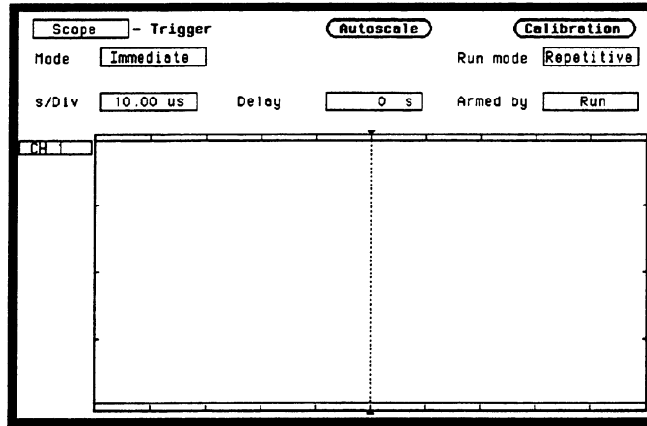

Figure 3-51. Trigger Menu
- Press the TRACE/TRIG key and set the Mode to **Immediate** and the Run mode to **Repetitive** as in figure 3-51.
- Press **TRACE/TRIG** and set the **Run** mode to **Repetitive** and trigger **Level** to **0 V** as in the previous figure 3-51.
- Press **TRACE/TRIG** and set the **Run mode** to **Repetitive** and trigger **Level** to **0 V** as in the previous figure 3-51.